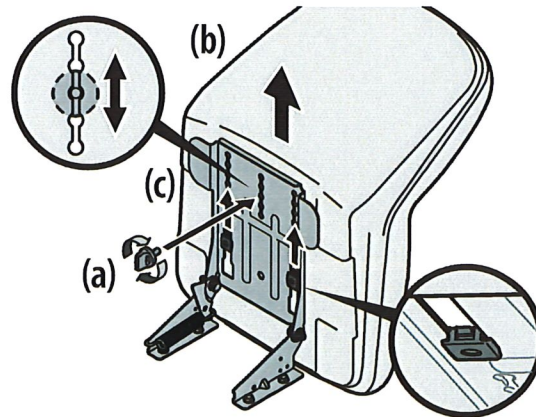

Figure 4
4. Slide the seat (b) rearward in the seat pivot bracket (c), lining up one of the slots in the seat pivot bracket (c) with the hole in the center rear of the seat (b) base. See Figure 4.
**NOTE:** Be certain the two seat tabs engage the seat pivot bracket as shown in the bottom right inset of Figure 4.
5. Select the desired position for the seat (b), and secure with the adjustment knob or 9/16" bolt (a) removed in Step 2. See Figure 4.